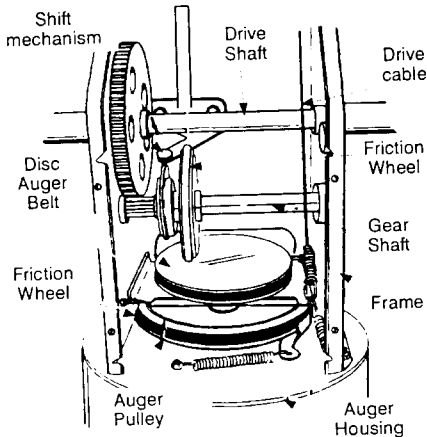

FIGURE 22
If for any reason your transmission was disassembled and the drive cable disconnected, make sure when reassembling to pass the cable between the drive shaft and the gear shaft before reconnecting to support bracket. See figure 22.
- Slip belt between friction wheel and friction wheel disc. See figure 22. You may have to twist the belt flat in order to slide it through the clearance between the friction wheel and the friction wheel disc. Remove the belt completely.
- Remove the gear shaft from the unit by removing the hex nut and cupped washer from left side of the frame. See figure 29. Hold the friction wheel assembly, and slide the gear shaft out of the unit toward the right hand side. Refer to figure 22.